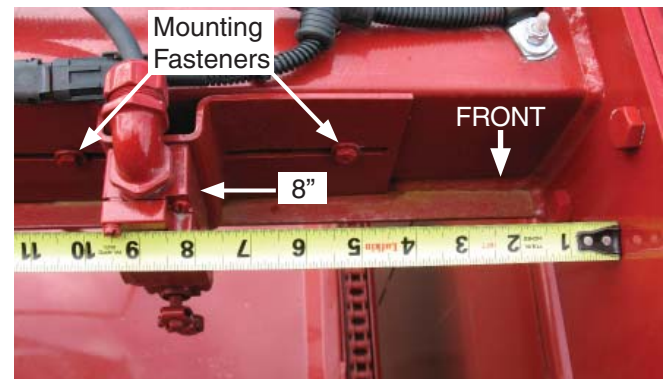

Figure 22 - Limit Switch - 2 Adjustment
1. Use a wrench to loosen the mounting fasteners holding the limit switch bracket (see Figure 22).